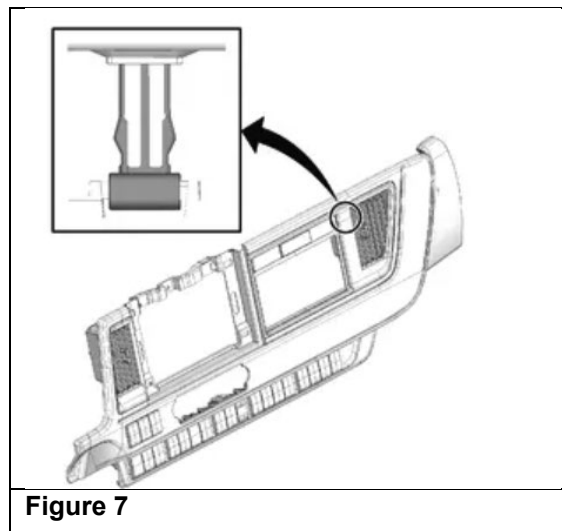

Figure 5
8. Remove the screw from the center cluster. (See Figure 5.)